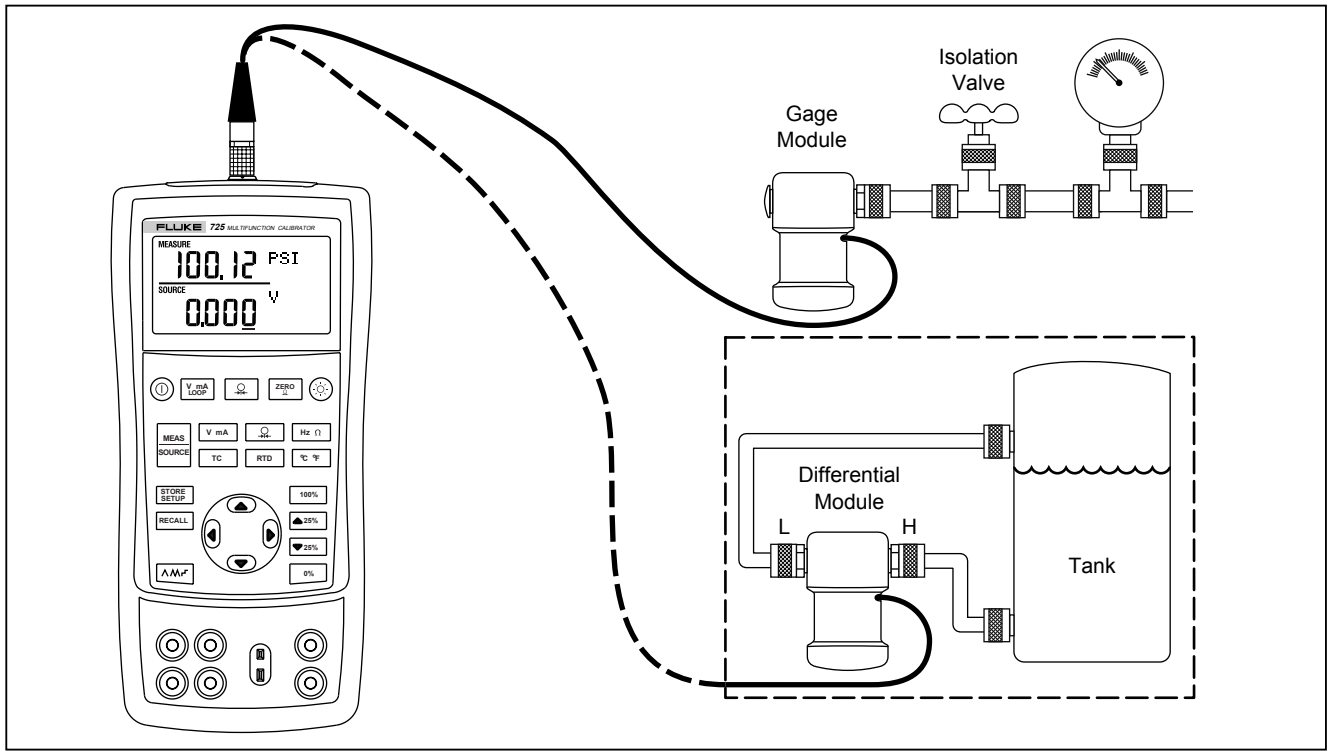

Figure 13. Connections for Measuring Pressure
1. Connect a pressure module to the calibrator as shown in Figure 13. The threads on the pressure modules accept standard ¼ NPT pipe fittings. Use the supplied ¼ NPT to ¼ ISO adapter if necessary.